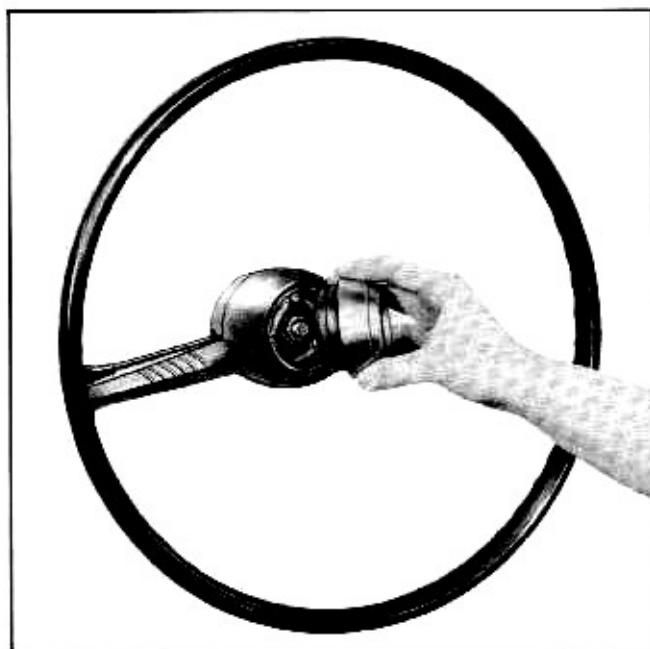

Fig. 9-3 Standard Horn Button
1. Lift to remove ornament (Figs. 9-3 and 9-4).